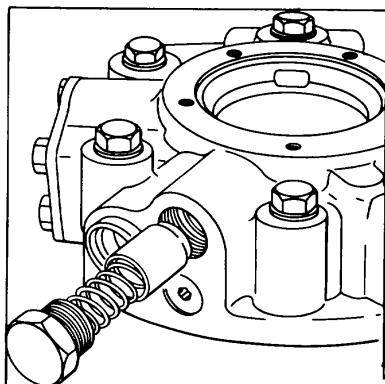

Figure 225.
26. Inspect low pressure relief valve plunger (61) for scratches, nicks or burrs. Burnishing of the plunger at the point of contact with the seat is normal. If wear can be felt, replace the plunger (61). Install the plunger (61), spring (62), a new O-ring (17), and relief valve plug (73) See Fig 225.